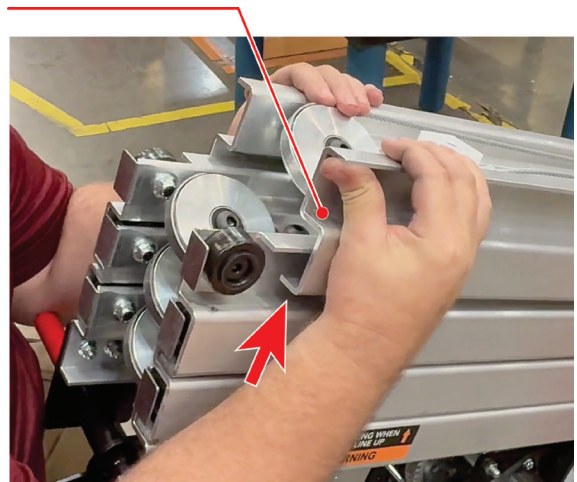

Figure 4-12: Slightly Raising Mast While Lowering
22. Remove the locking pliers holding the front mast and slide the mast downward. You will need to slightly raise the top of the front mast to clear the upper slide block attached to the mast beneath (see Figure 4-12). Slide the front mast down just enough to expose the lower pulley assembly on the underside of the front mast.
31. Remove the locking pliers holding the second mast and slide the mast downward. You will need to slightly raise the top of the second mast to clear the upper slide block attached to the mast beneath (see Figure 4-12). Slide the second mast down just enough to expose the lower pulley assembly on the underside of the second mast.
40. Remove the locking pliers holding the second mast (JML-12S) or third mast (JML-16S) and slide the mast downward. You will need to slightly raise the top of the mast to clear the upper slide block attached to the mast beneath (see Figure 4-12). Slide the mast down just enough to expose the lower pulley assembly on the underside of the mast.